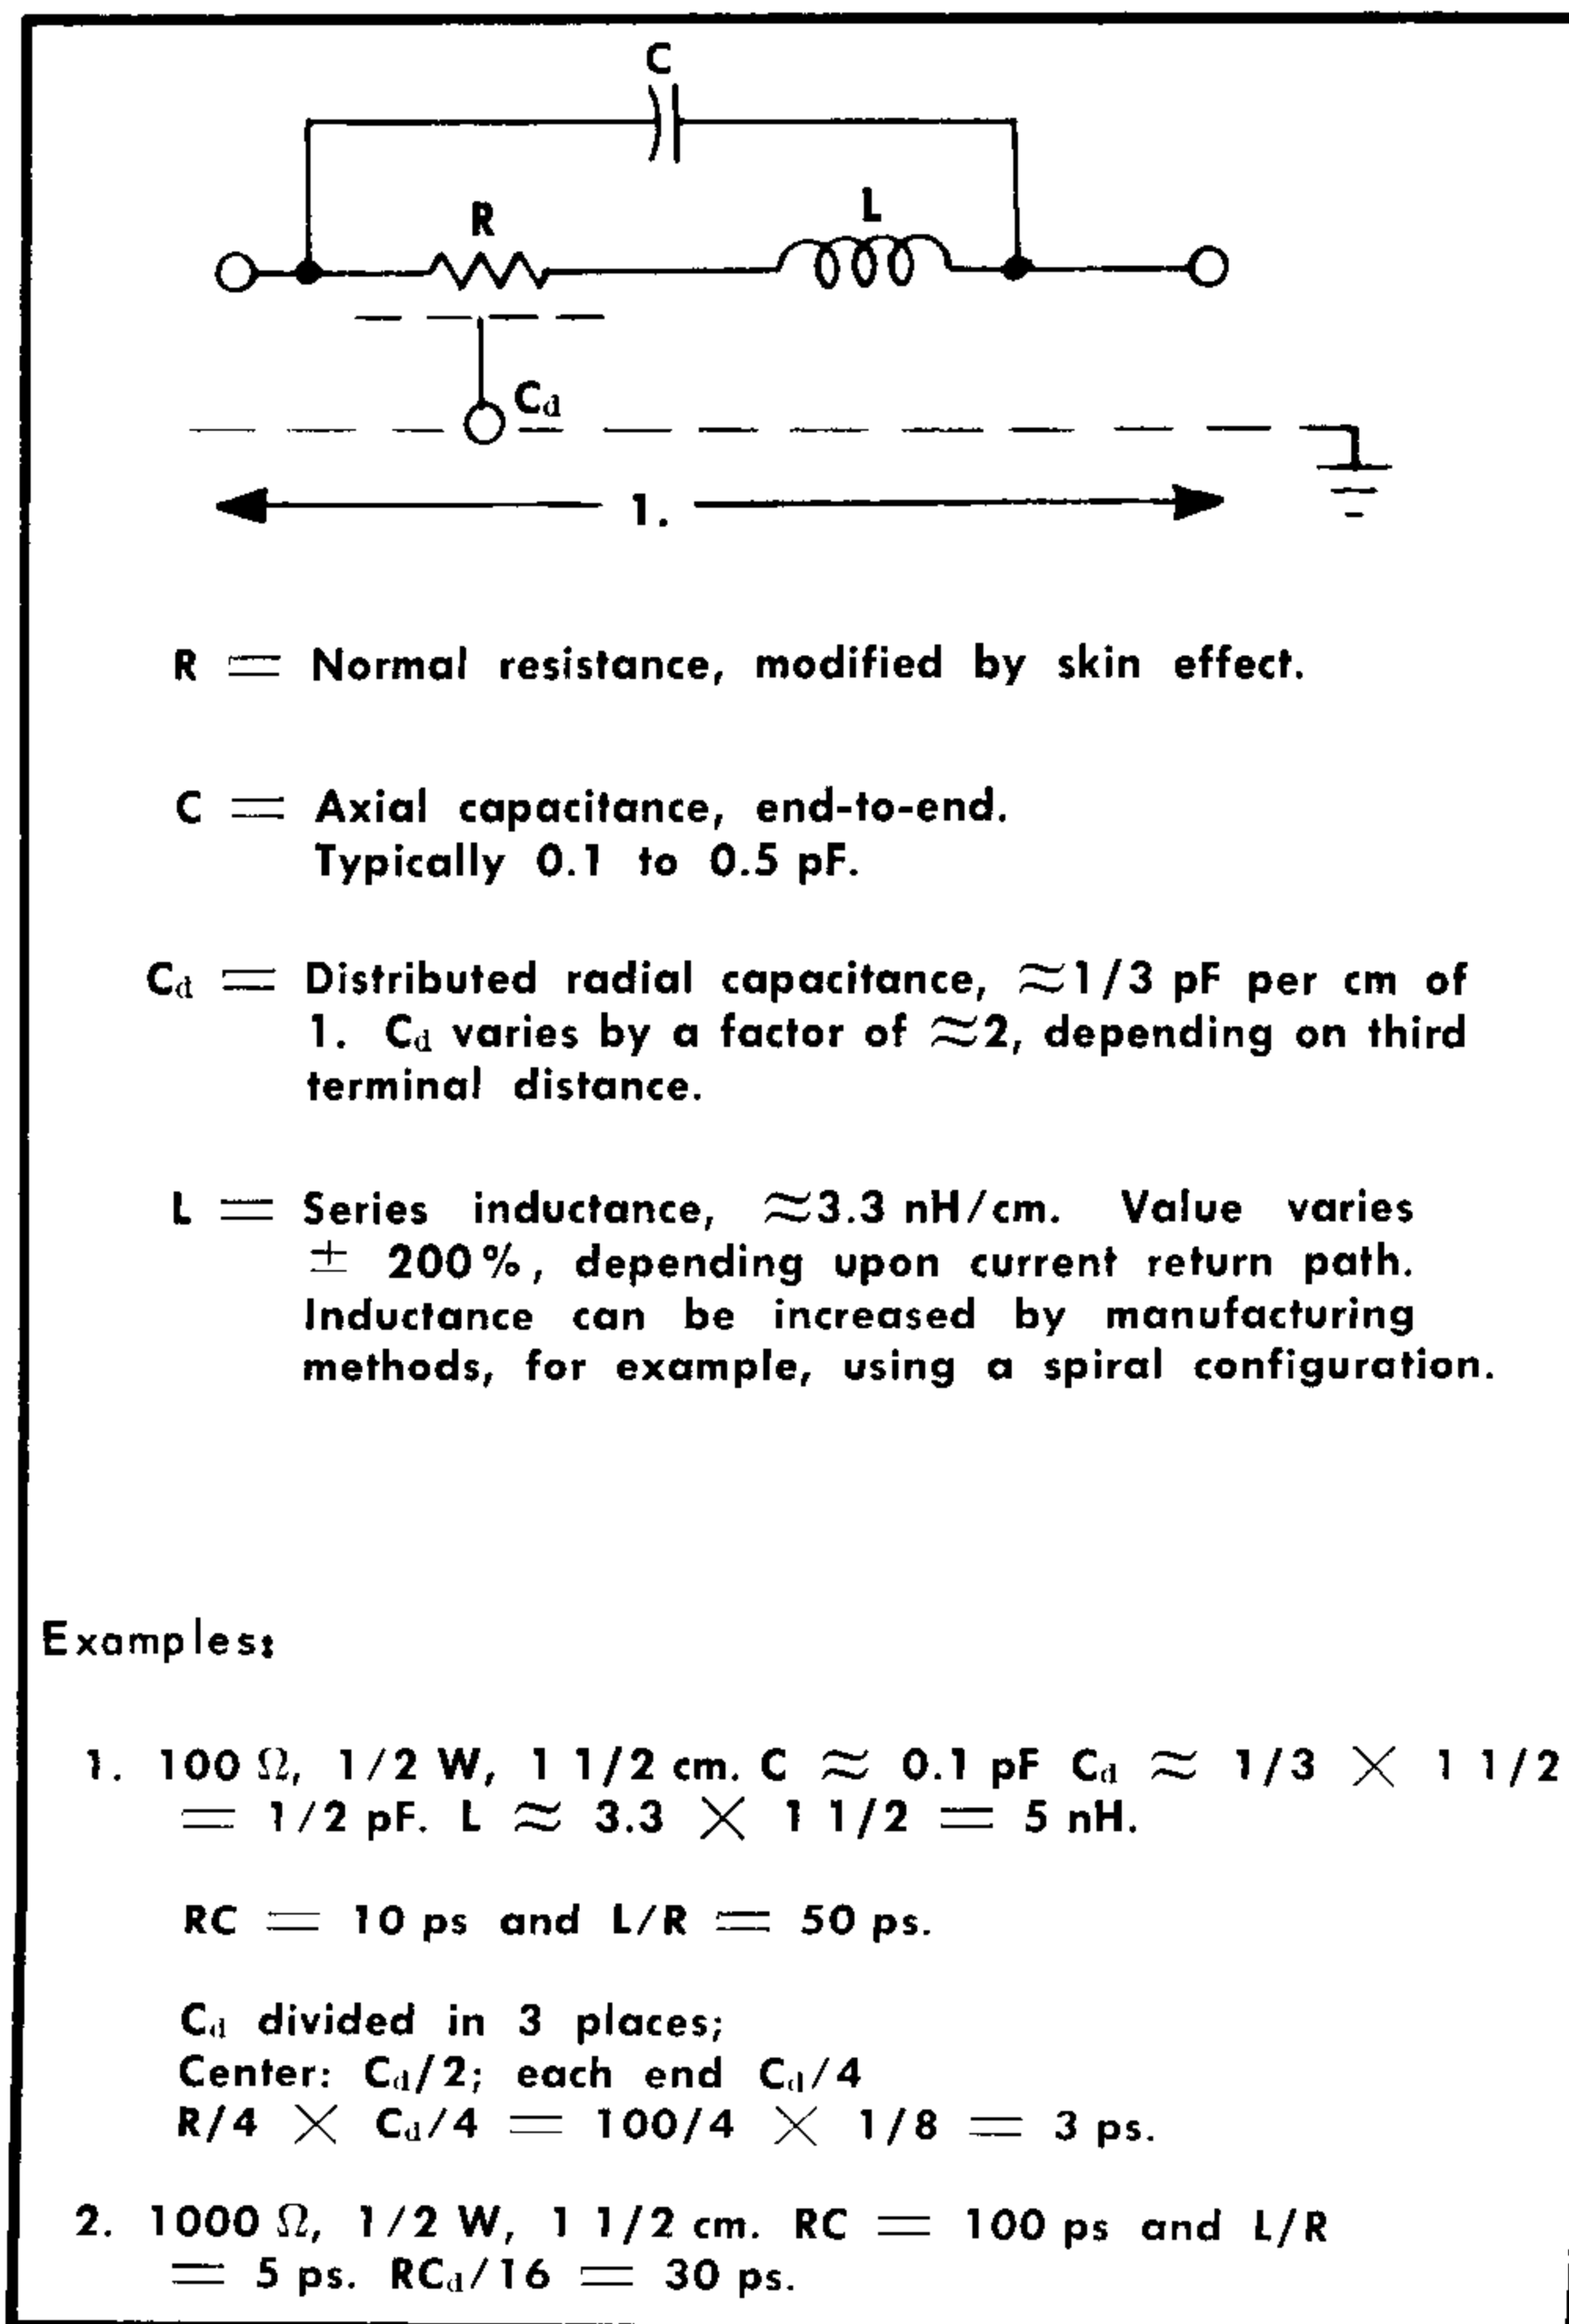
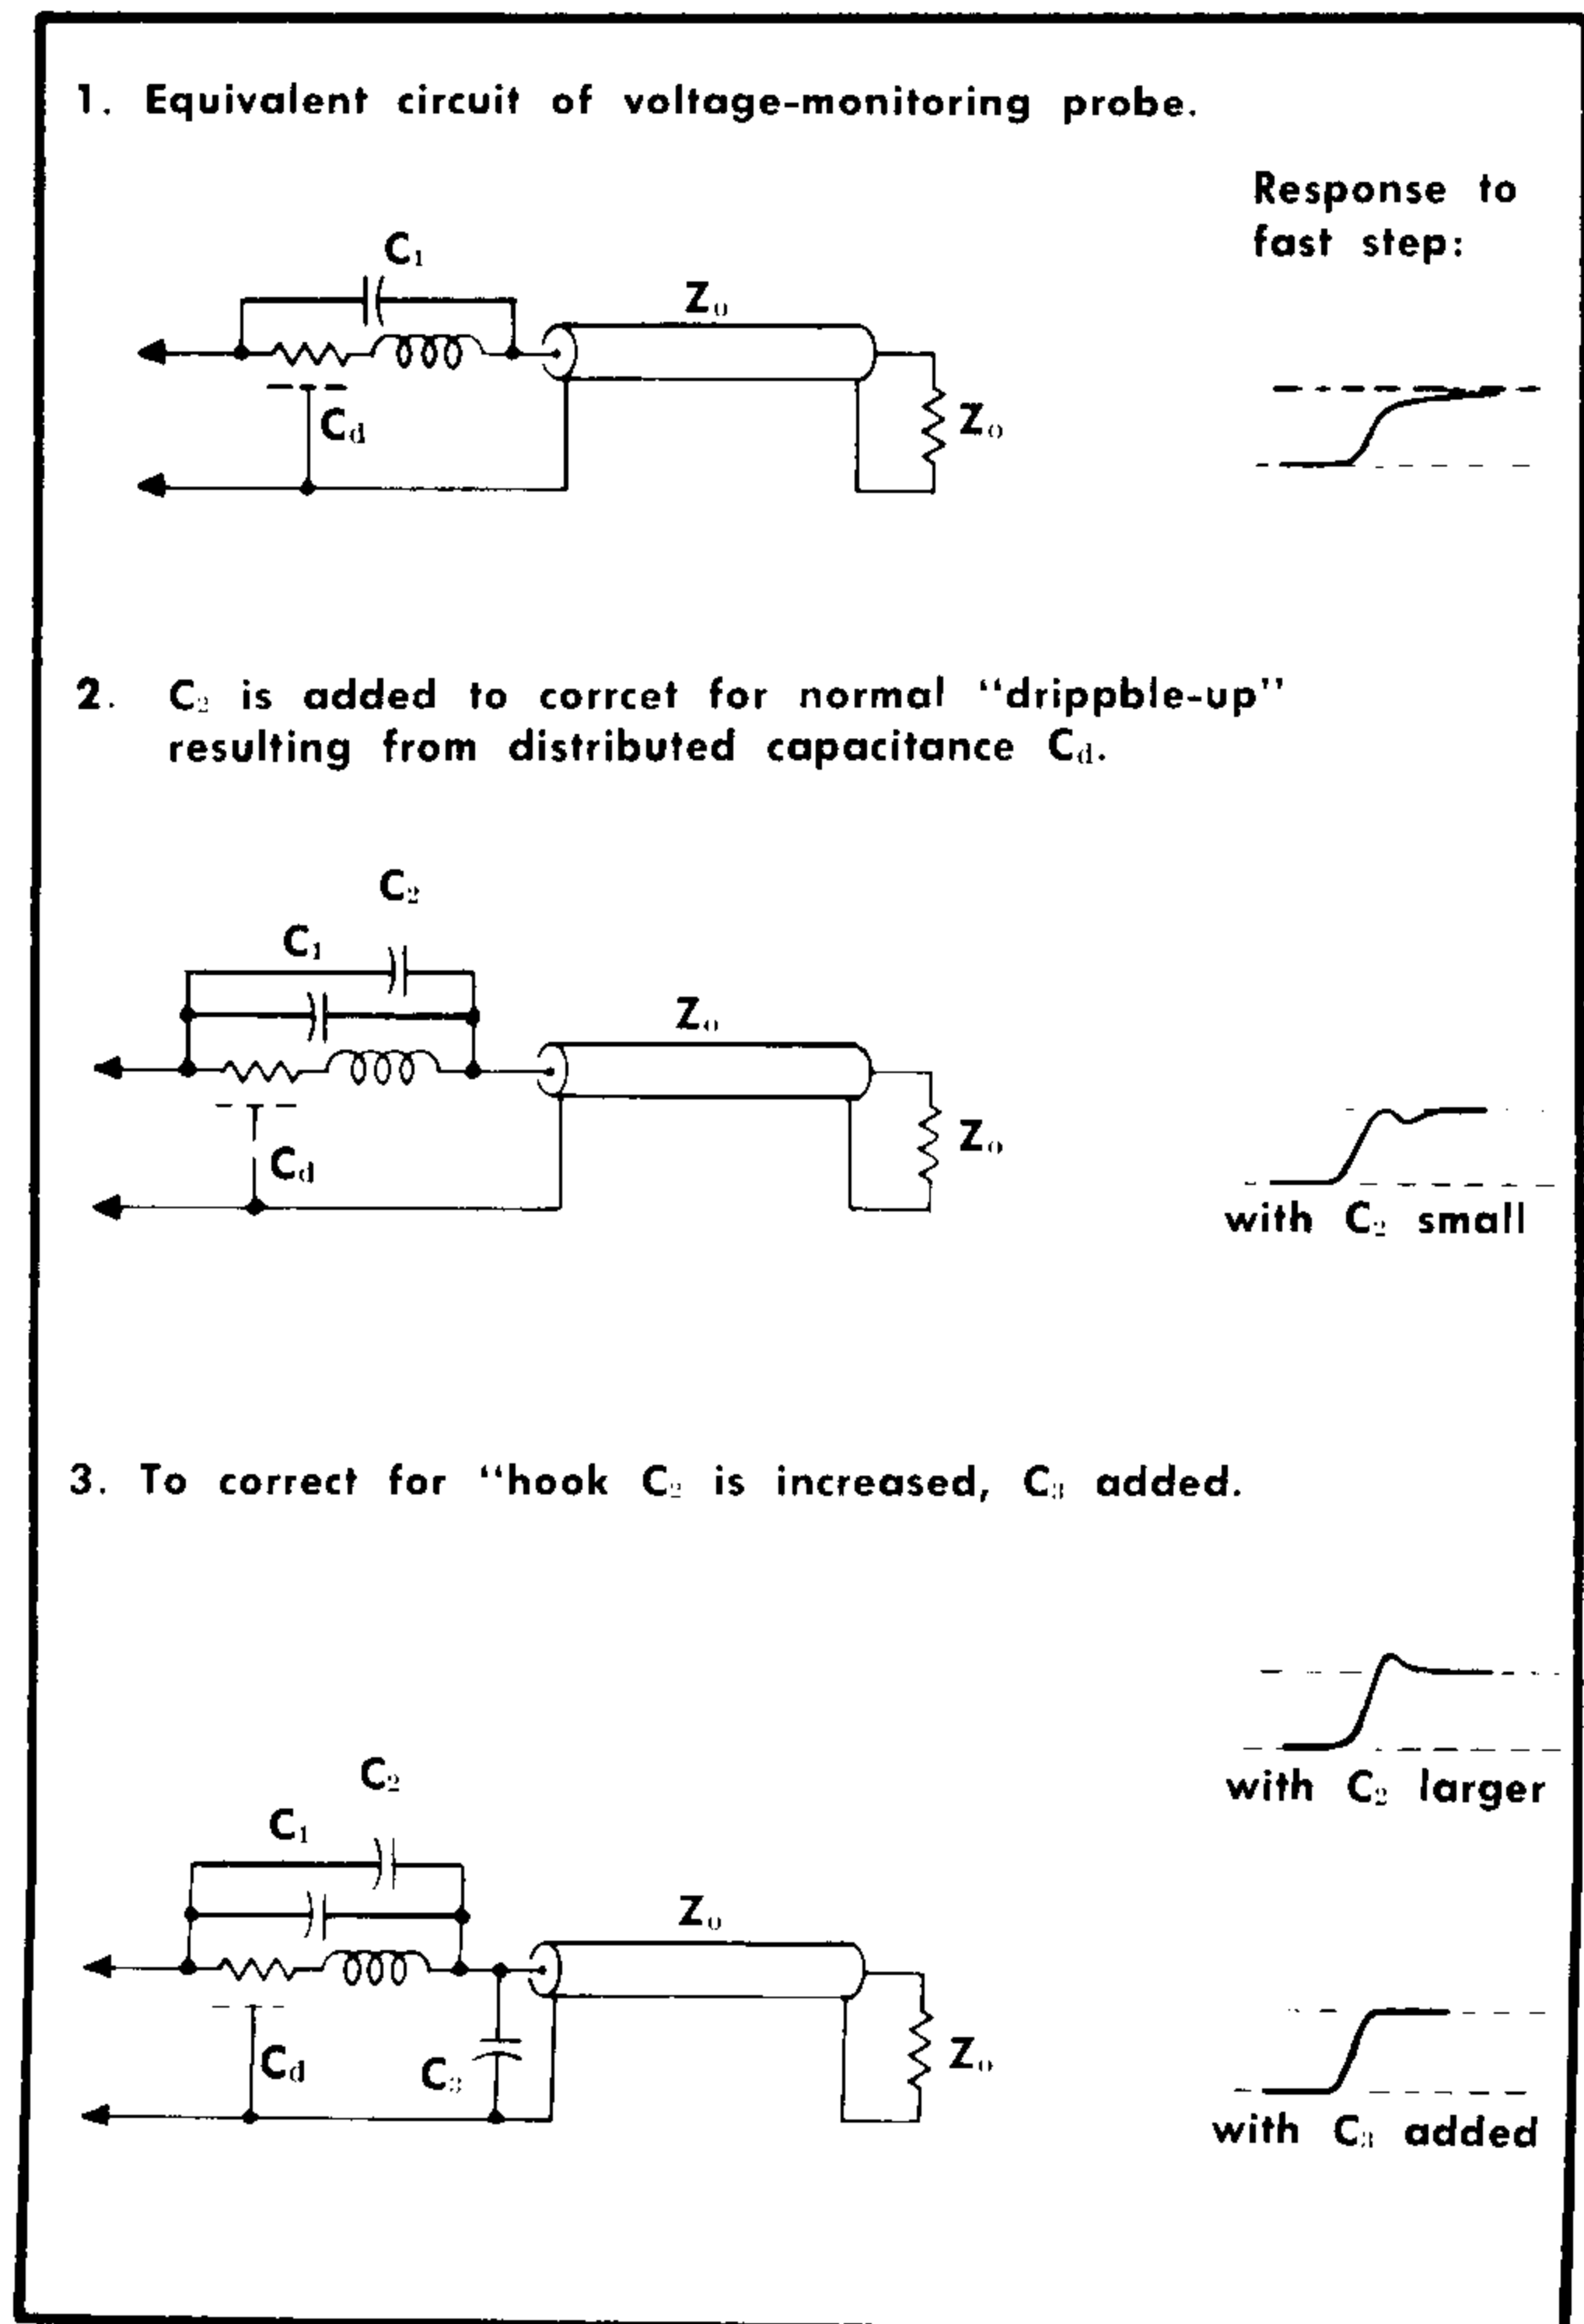

Fig. 2-11. Equivalent circuit and environment of a deposited carbon resistor.
Fig. 2-12. Fractional nanosecond compensation of low resistance passive probes.
Major limiting factors when building attenuator probes are the resistor characteristics at fractional nanosecond speeds. In constructing built-in signal probes, it is advantageous to use $1/4$ or $1/8$ watt resistors since their small size aids in obtaining good high-frequency response. Fig. 2-11 shows the equivalent circuit of a deposited carbon resistor with normal axial leads. Because of these equivalent circuit characteristics, frequency compensation of the terminated cable probes of Fig. 2-10 (IA) requires the special construction techniques shown in Fig. 2-12.